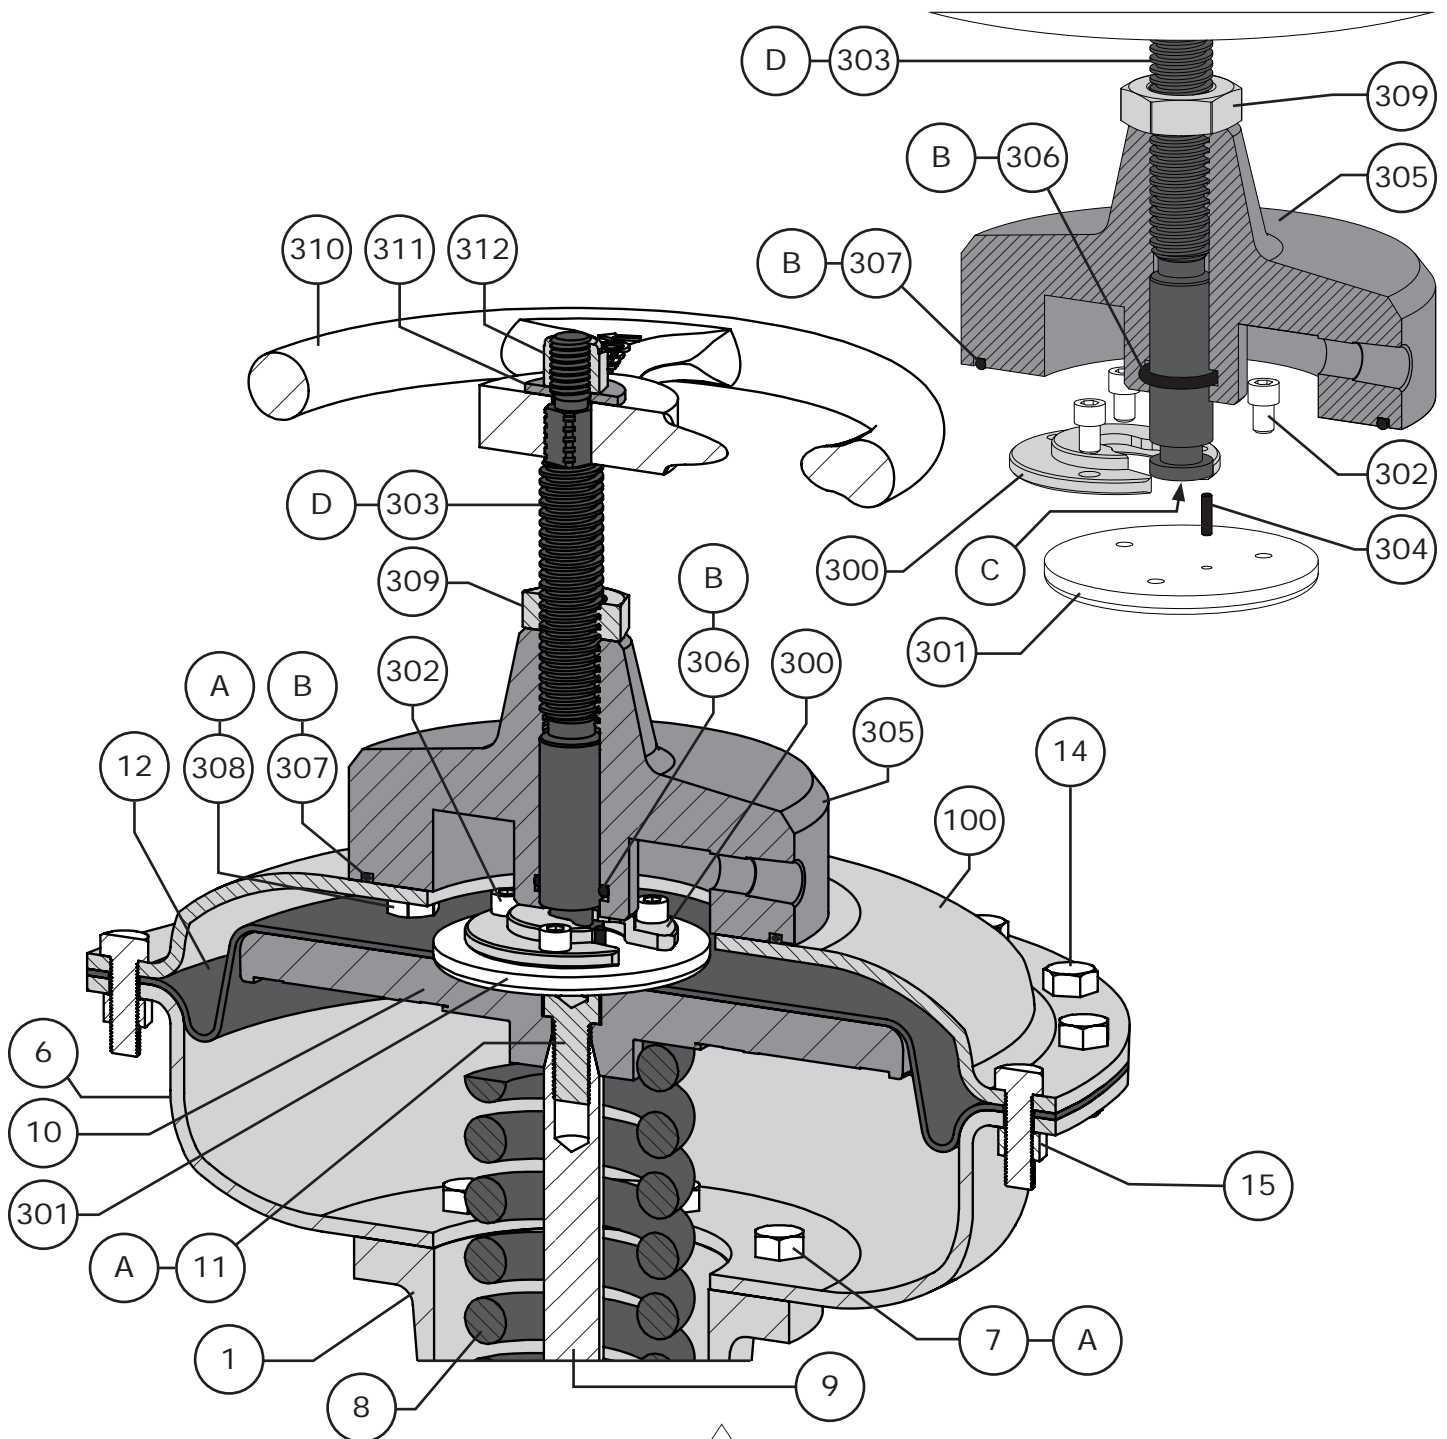

Figure 23 Top-Mounted Handwheel Cross Section (Size 069, 105, and 156 Actuators)
TOP-MOUNTED HANDWHEELS (Refer to Figure 23 & 24)
Stem travel limits can be adjusted and set by rotating the handwheel to a desired position and then tightening the lock nut (Key 309) into the body (Key 305) of the handwheel (refer to Figures 23 & 24). By extending the stem (Key 303) and then locking it in place by tightening the lock nut, the length of travel can be shortened.
- 5 Separate the handwheel assembly from the upper diaphragm casing (Key 100) by remove the cap screws (Key 308). Refer to Figure 23.
- 10 If required, remove the pin (Key 304) and separate the stem (Key 303) from the pusher plate (Key 301). Refer to Figure 23.
- 9 If required, remove the pin (Key 304) and separate the stem (Key 101) from the pusher plate (Key 301). Refer to Figures 23 and 25.